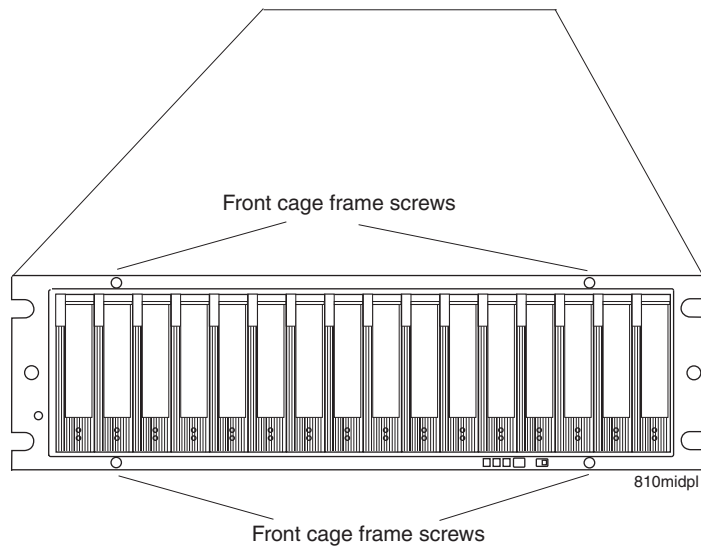

Figure 58. Front cage frame screw locations
11. Use a #1 Phillips screwdriver to loosen the four front cage frame screws on the midplane, as shown in Figure 58.
18. Tighten the four front cage frame screws. See Figure 58 on page 121.